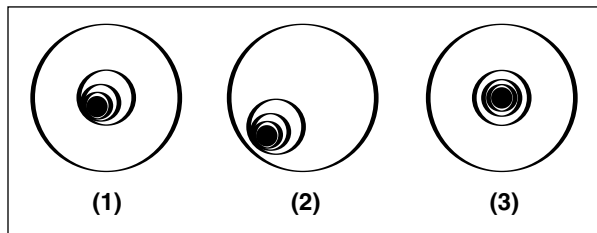

Fig. 25: Defocused star images.
- a. The only adjustments possible, or necessary, on the LX90 are from the three screws (**Fig. 25**) located at the edge of the outer surface of the secondary mirror housing.
- b. While looking at the defocused star image, notice which direction the darker shadow is offset in the ring of light or notice which part of the ring is the thinnest (**1, Fig. 25**). Place your index finger in front of the telescope so that it touches one of the collimation set screws. You will see the shadow of your finger in the ring of light. Move your finger around the edge of the black plastic secondary mirror support until you see the shadow of the finger crossing the thinnest part of the ring of light. At this point, look at the front of the telescope where your finger is aiming. It will either be pointing directly at a set screw, or it will be between two set screws aiming at the set screw on the far side of the black plastic secondary mirror support. This is the set screw that you will adjust.
- c. Using the Arrow keys at the slowest slew speed, move the defocused image to the edge of the eyepiece field of view (**2, Fig. 25**), in the same direction as the darker shadow is offset in the ring of light.
- f. When you bring the image to center (**3, Fig. 25**), carefully examine the evenness of the ring of light (concentricity). If you find that the dark center is still off in the same direction, continue to make the adjustment in the original turning direction. If it is now off in the opposite direction, you have turned too far and you need to turn in the opposite direction. Always double check the image in the center of the field of the eyepiece.